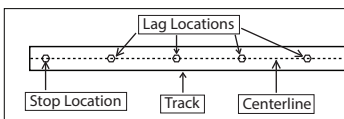

Figure 5
5. Locate the centerline of your track. Once the centerline is located, mark your drill points based off your stud location or other measurements. Be sure to mark where the ladder-stops will go, we recommend 3/4" in from the outside edge of the track (see Figure 5).